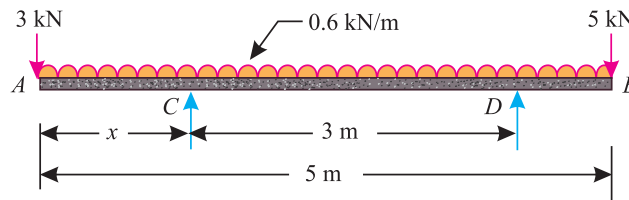

Fig. 12.13.
**Example 12.6.** A beam AB 5 m long, supported on two intermediate supports 3 m apart, carries a uniformly distributed load of 0.6 kN/m. The beam also carries two concentrated loads of 3 kN at left hand end A, and 5 kN at the right hand end B as shown in Fig. 12.13.